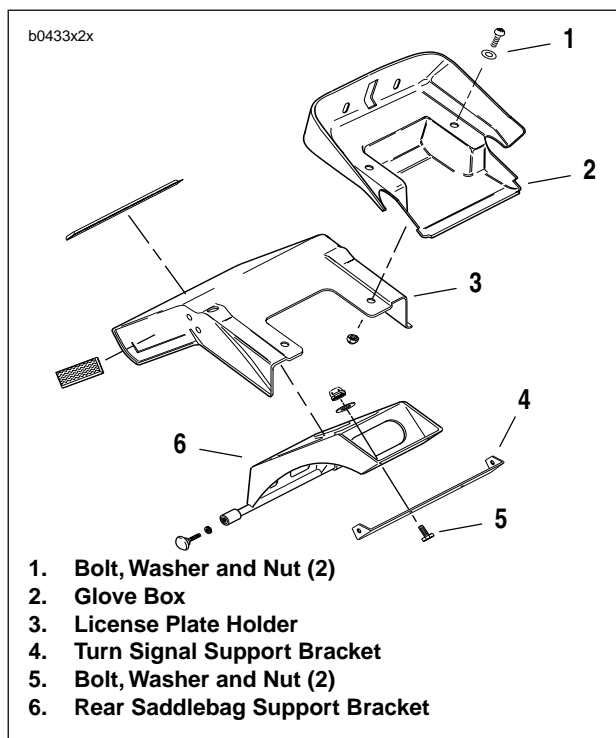

Figure 2-106. Glove Box
4. See Figure 2-106. Remove bolts, washers and nuts (1) holding glove box (2) to license plate holder (3) and frame.